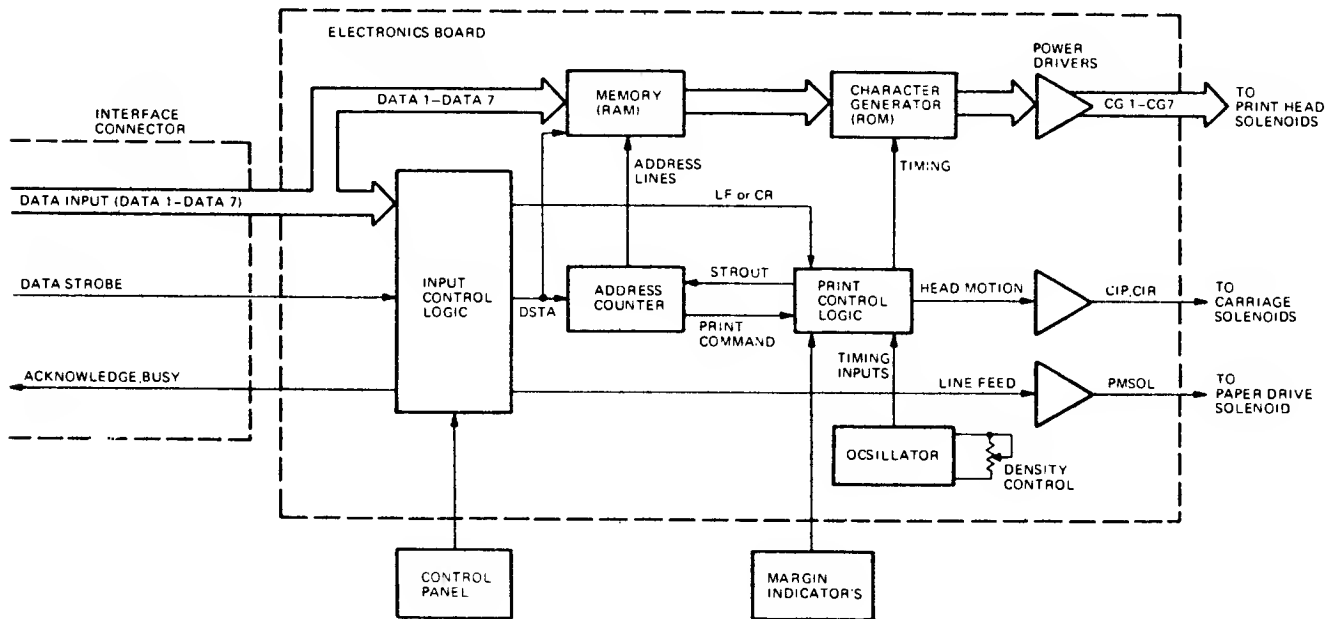

Figure 2-1. SIMPLIFIED BLOCK DIAGRAM, ELECTRONICS
Each function is discussed at a subassembly level, supplemented with block diagrams showing signal flow between major subassemblies and the connector/pin locations of each signal. Figure 2-1 is a simplified block diagram of the overall printer electronics.
2.2 BLOCK DIAGRAM DISCUSSION (Figure 2-1)
The Line Printer electronics is contained on one printed circuit board. As shown in Figure 2-1, printable data goes from left to right across the diagram to the print head, with control of this data coming from the input control logic and the print control logic. When the printer is first turned on, the printer logic is initialized and the printer is not print enabled. To receive data, the printer must then be enabled by depressing the PRINT rocker switch on the operator's panel.